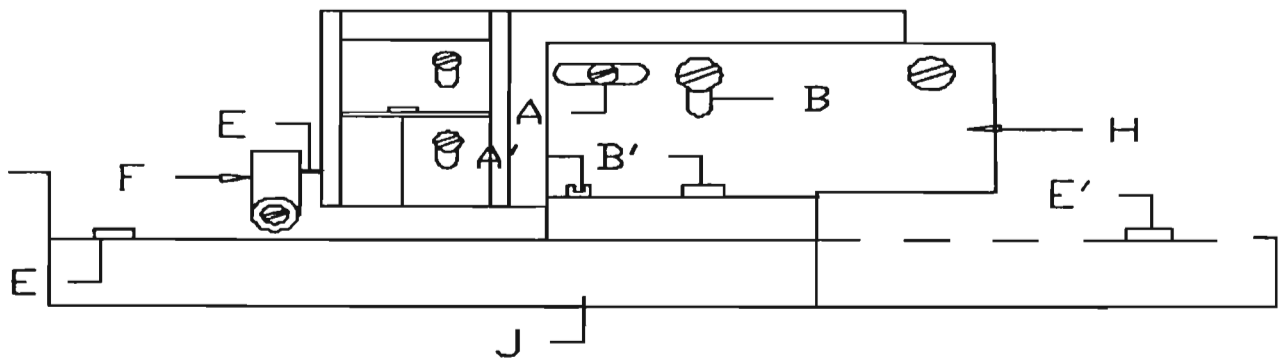

FIGURE 2
**NOZZLE:** (Fig. 2, e) The nozzle conducts gas from the flow valve to the filament area. It is a press fit into an o-ring located at the front of the flow valve. The nozzle tip is usually located from 1 to 2 millimeters below the filament and centered on it.
**NOZZLE HOLDER:** (Fig. 2, f) Maintains the nozzle in position below the filament. The holder contains two adjustments. The screw on the top allows the nozzle to be rotated and moved in and out of the front of the flow valve. The screw that secures the holder to the filament block can be loosened allowing the nozzle to move up and down.
**ANGLE PLATE:** (fig. 2, h) The angle plate secures the filament block assembly to the cover plate; it contains two important adjustments. Note the chrome plated screws in slots at points A and A' and the locking screws in slots at points B and B'. The chrome plated screws are 'eccentrics'; by rotating them with a screwdriver the filament block assembly can be moved up and down (A) or forward and back (A') to adjust the position of the filament. Loosen the locking screw associated with each 'eccentric screw' before turning, and tighten after completing the adjustment.
**COVER PLATE:** (Fig. 2, j) The cover plate conceals the entry of the pulling cables in to the base of the instrument. It is attached to the top by two screws, in slots, at points E and E'. Loosening these screws allows the filament block/angle plate assembly to move forward and back over large distances.
Remove the eight plastic screws that hold down the circuit board (Fig. 2, locations E and E').